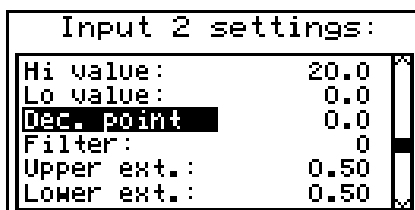

Fig. 7.21. "Inputs settings" menu (part 2)
- "Upper ext."** - parameter defining the allowable range of input voltages (Fig. 7.21).
"Upper ext." - Parameter only available for mV mode. They are defining the allowable range of input voltages (**Fig. 7.21**). If the input voltage lies within the defined range then the appropriate measurement result shall be displayed despite exceeding the nominal measurement value $-30\pm 80\text{mV}$ or $-50\pm 120\text{mV}$. If the input voltage exceeds the range defined by **"Upper extension"**, **"Lower extension"**, a **"-Hi-"** or **"-Lo-"** message (depending on the direction of exceeding the range) shall be displayed instead of the measurement result in numeric form. The **"Upper extension"** and **"Lower extension"** values are defined in mV with the accuracy of 0.01 mV. The **"Lower extension"** value is defined in relation to both measurement ranges in the range of 0-3,99mV. The **"Upper extension"** value is defined in relation to both measurement ranges in the range of 0-3,99mV.